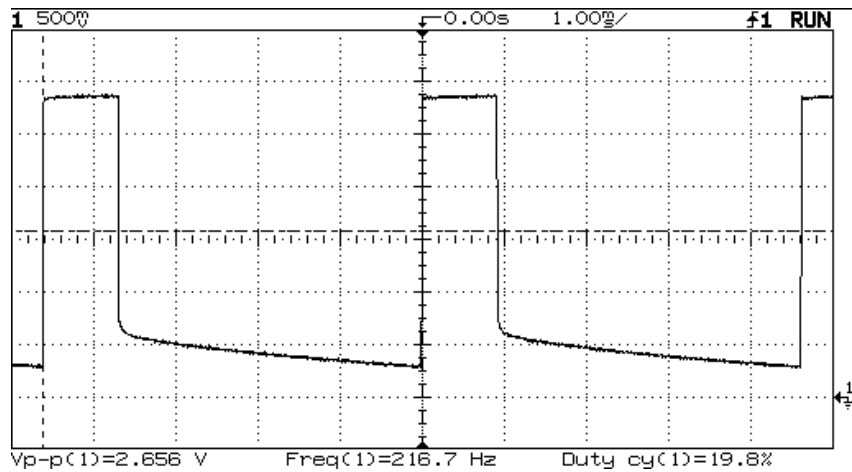

Fig. 4.6 GSM\_ON
4. **3V\_P\_TX** ( A 2.85V supply which feeds parts of the PCN TRX path). See figure 4.6.